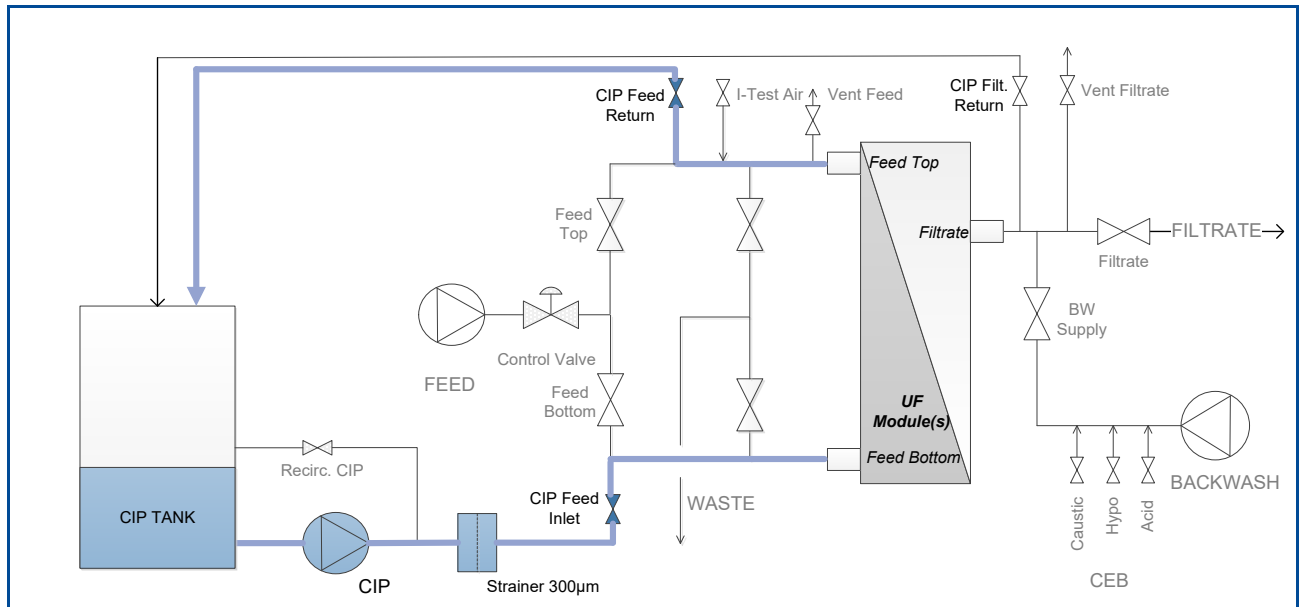

Figure 7.3-1 - Recirculation on the feed side
2. Injection of the chemical solution into the fiber lumen on the feed side is triggered by starting the CIP cleaning pump (Figure 7.3-1). Set the minimum volume flow rate in accordance with the section "Establishing CIP Recirculation". It is important to ensure a feed side venting.